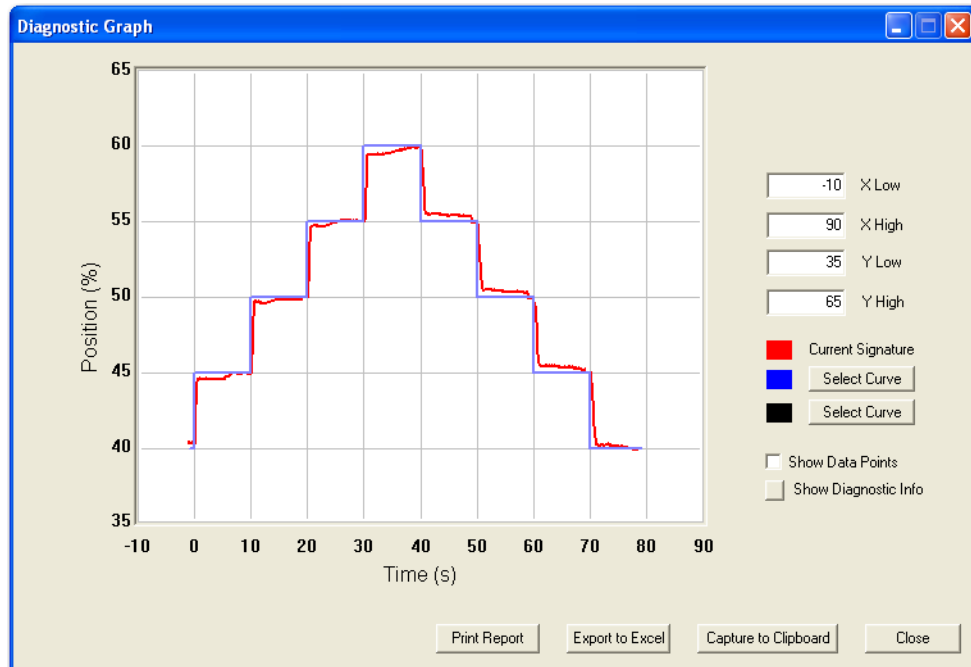

Figure 123 Diagnostics Graph for Step Test
- Click **Continue** to close the dialog. The *Step Test Diagnostic Graph* appears (Figure 123).
Click **Show Diagnostic Info** displays the analysis for each step (Figure 123).